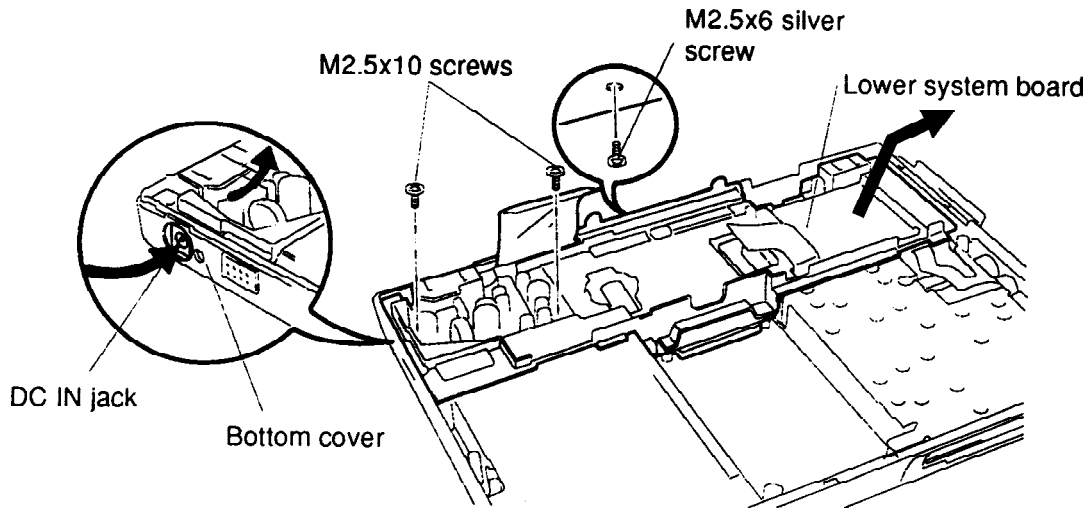

Figure 4-20 Removing the Lower System Board Assembly
5. Remove the **M2.5x6 silver screw** from the bottom of the computer (Figure 4-20).
6. Remove the **two M2.5x10 screws** located next to the power supply circuits of the **lower system board** (Figure 4-20).
7. Turn the assembly over, and place the lower system board assembly into the computer's chassis, inserting the **DC IN jack** into the opening on the left side of the chassis (Figure 4-20).
9. Secure the **M2.5x6 screw** on the bottom of the unit (Figure 4-20).